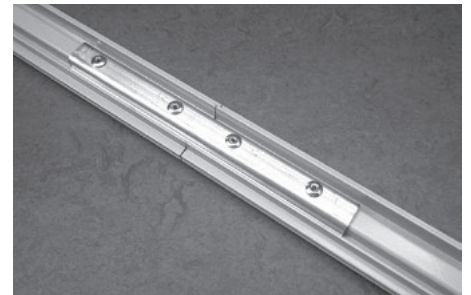

Fig 2 - Track drilled and riveted together
1. The FlagTrax is supplied in two sections (for easier transportation and storage) and must be fitted together before installation. (fig 2)